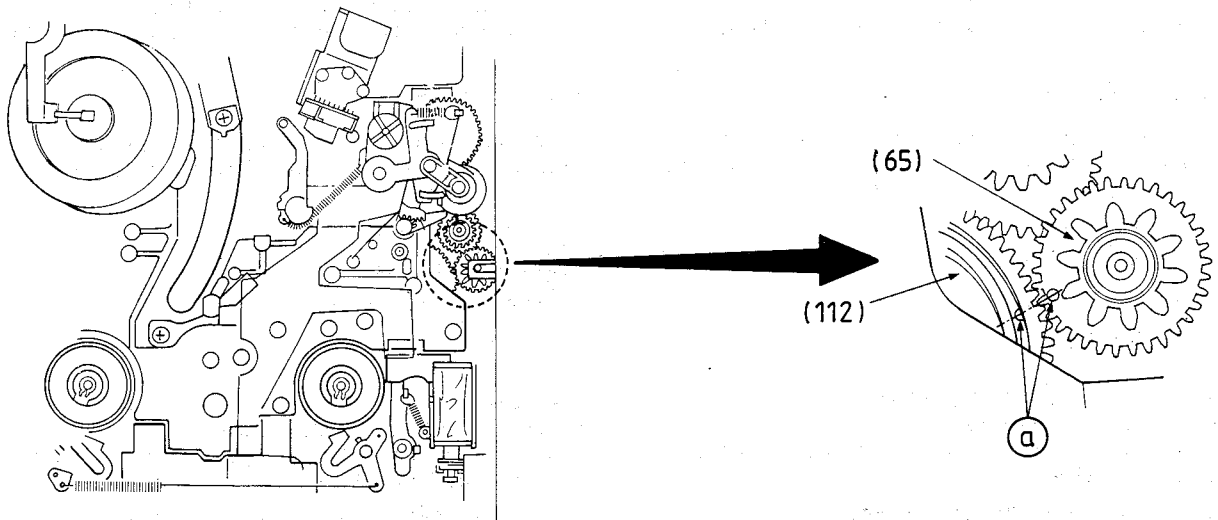

Fig. 61
- Fit the Intermediate Gear (65) as shown in Fig. 61. The marked holes (a) on the Intermediate Gear (65) and the Cam gear (112) must be aligned towards each other.